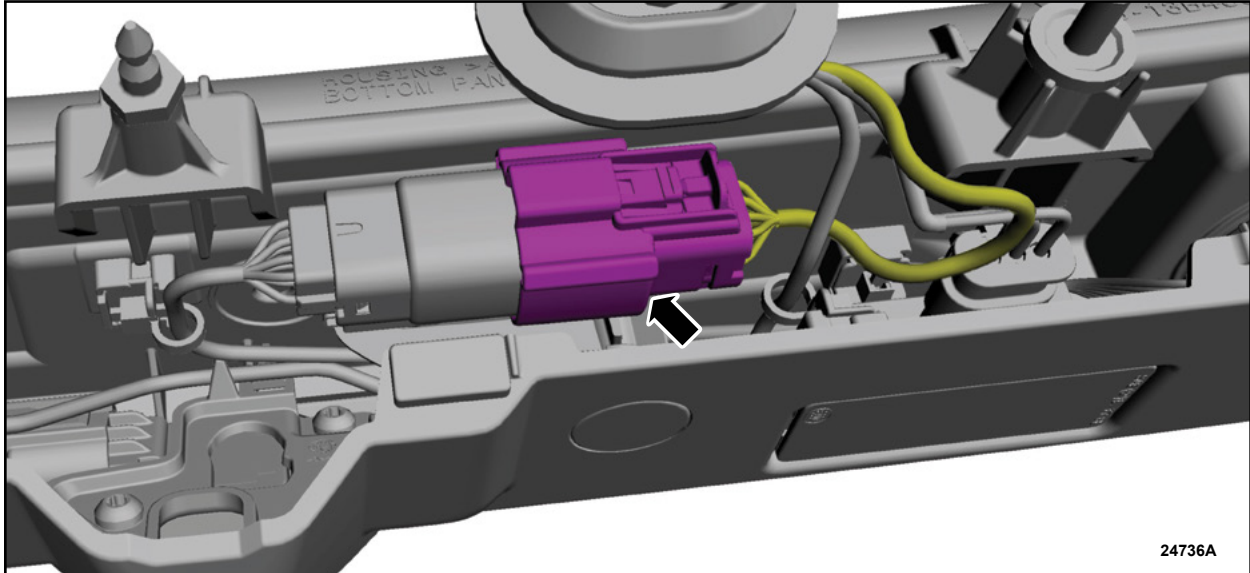

FIGURE 3
2. Disconnect the electrical connector and position the wiring harness aside. See Figure 3.